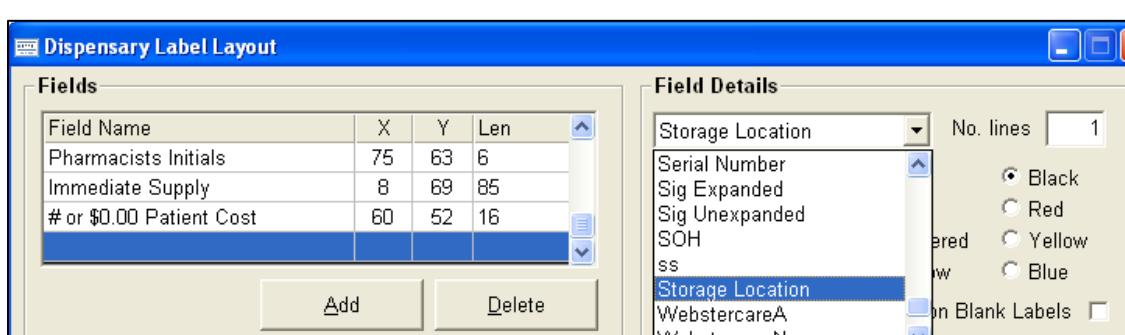

Figure 186
5. From the Field Details drop down menu select ‘Storage Location’ (See Figure 186).